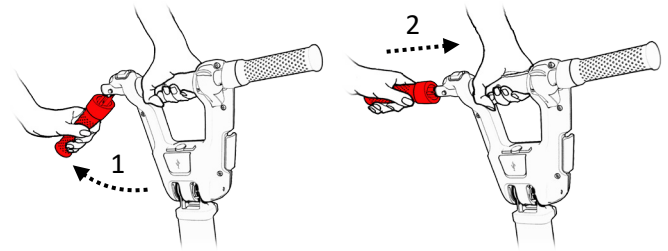

Figure 16
13. Open both sides of the handle bar (see Figure 16).